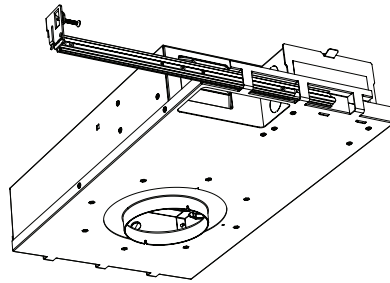

fig. 2
- b. Insert the inner nailer bar into the three housing clasps on the end of the D3 housing. Make sure the screw is on top. (see fig. 2)